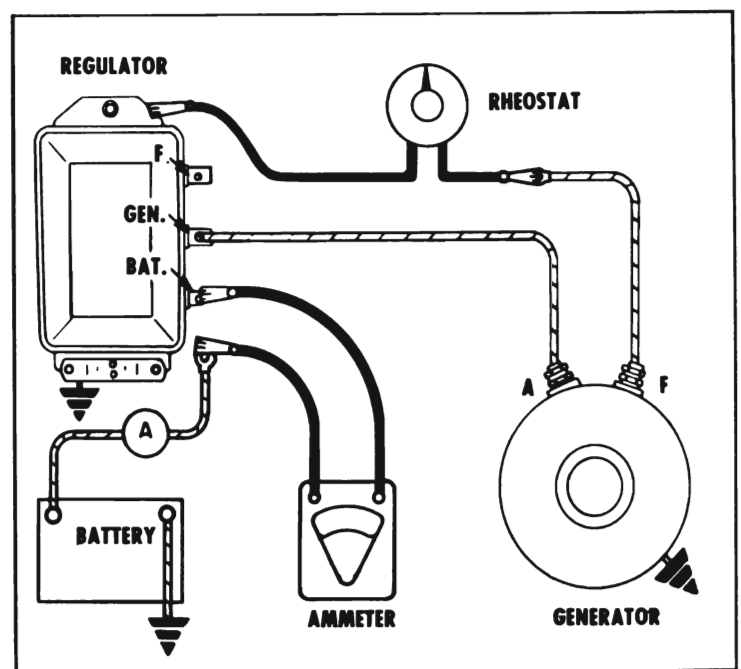
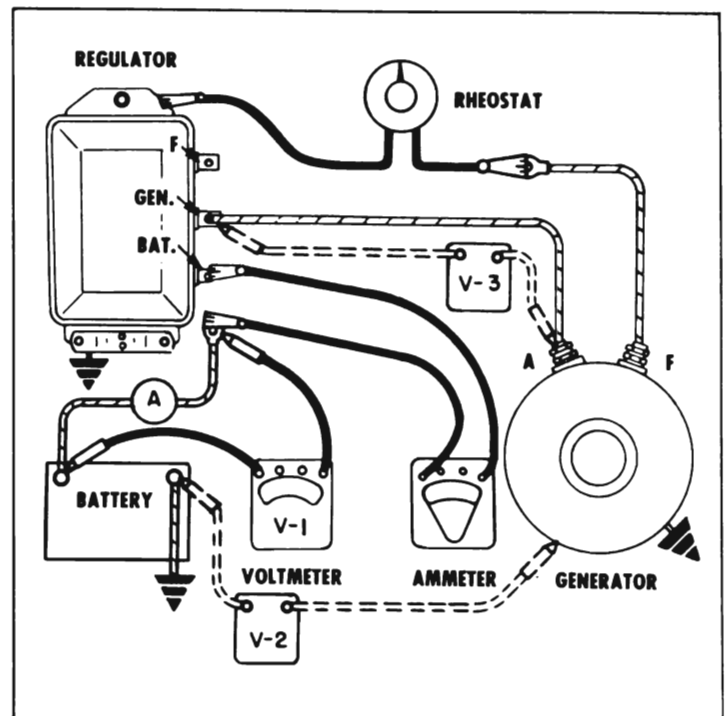

Figure 10-12—Testing Generator Output
Figure 10-13—Testing Charging Circuit Voltage Drop
See Figure 10-12. Turn variable resistance to the "open" position.
2. Disconnect battery lead from fuse at regulator "Bat" terminal. Connect test ammeter red lead to "Bat" terminal and ammeter black lead to battery lead. See Figure 10-12.
1. Make sure that all accessories are turned off and that ammeter and field rheostat are in place. See Figure 10-12.
3. Measure voltage drop at V-1, V-2, and V-3. Return rheostat knob to "OPEN" position immediately after taking readings. See Figure 10-12. Readings V-1 and V-3 should not exceed .3 volt each. Reading V-2 should not exceed .1 volt. See Figure 10-13.
When it is necessary to disassemble generator for any reason, make a complete clean up and test to make sure all parts are in satisfactory condition. See figure 10-13 for identification of generator parts.